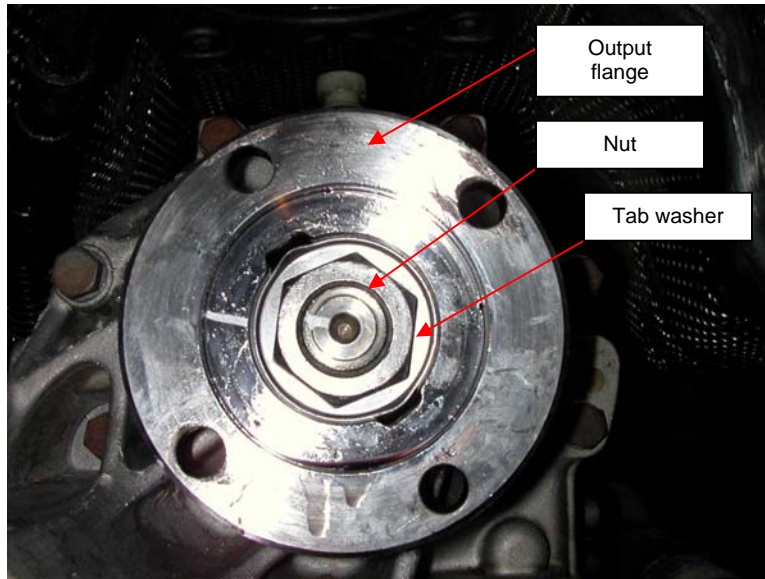

Fig. 9 Output flange nut and tab washer
- a. Pry the tab washer, used to lock the output-flange nut, from the flange using a screwdriver (see Fig. 9).